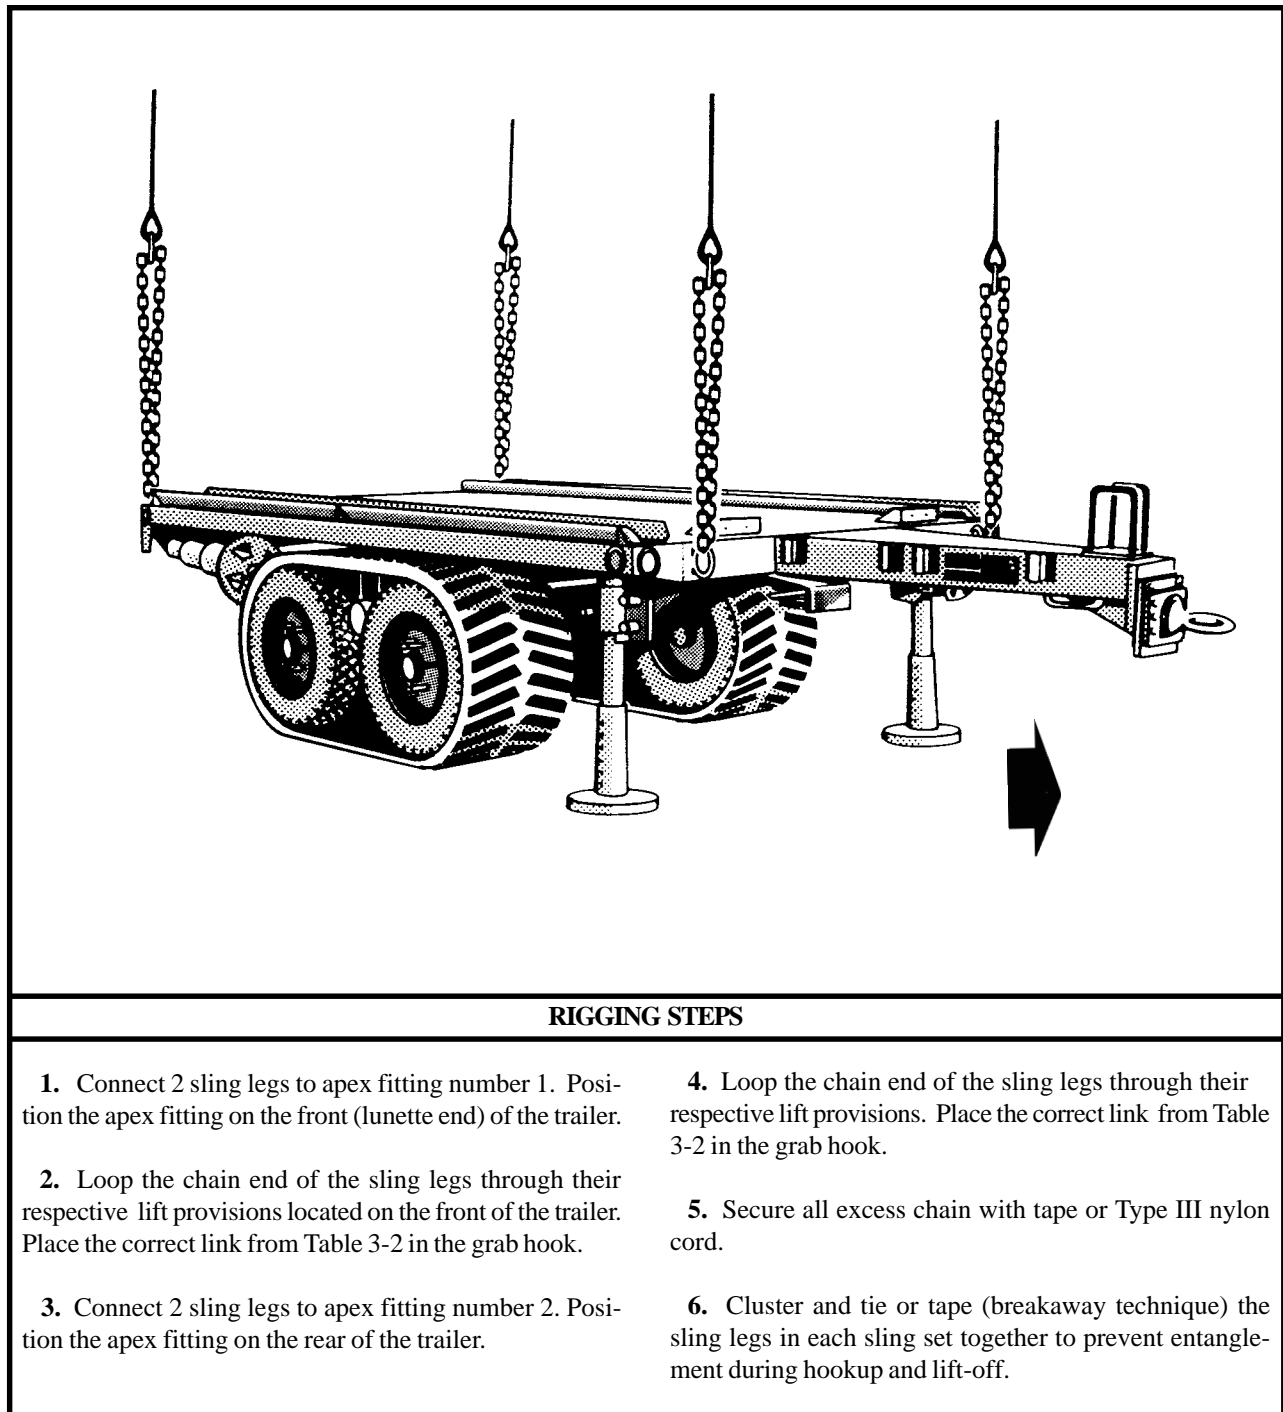

Figure 3-2. M1048 Trailer (TSS)
(2) **Rigging.** Rig the load according to the steps in Figure 3-2.
(4) **Derigging.** Derigging is the reverse of the preparation and rigging procedures in steps d (1) and d (2).